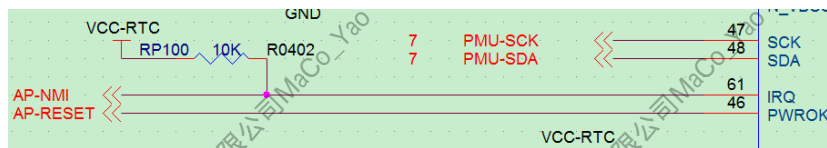

Figure 2-12 AP-NMI Pull-up Circuit Design
- The AP-NMI network is OD output structure and must pull up to VCC-RTC, as shown in figure 2-12.